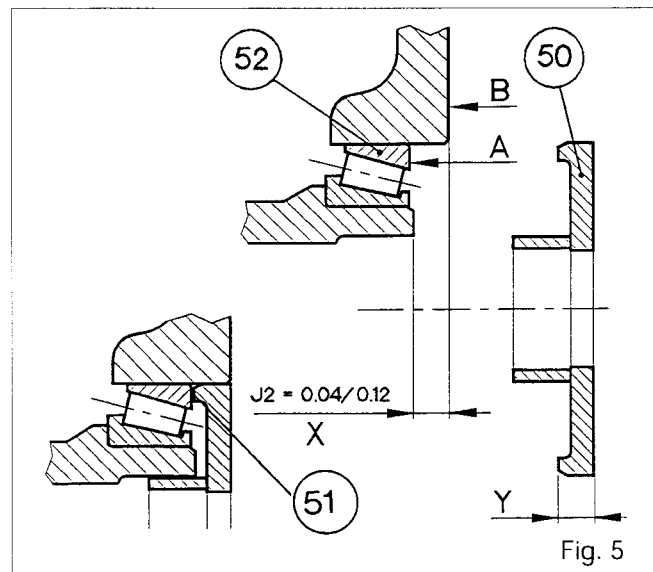

Fig. 5
**J2 = 0.04 to 0.12 mm** (Fig. 5)
27. Using a depth gauge, measure the dimension **X** between face **A** of the cup (**52**) and face **B** on the housing (see Fig. 5).
**Note : Do not forget to fit the bolt (1) on the housing (Fig. 5), Section 5 C01.**